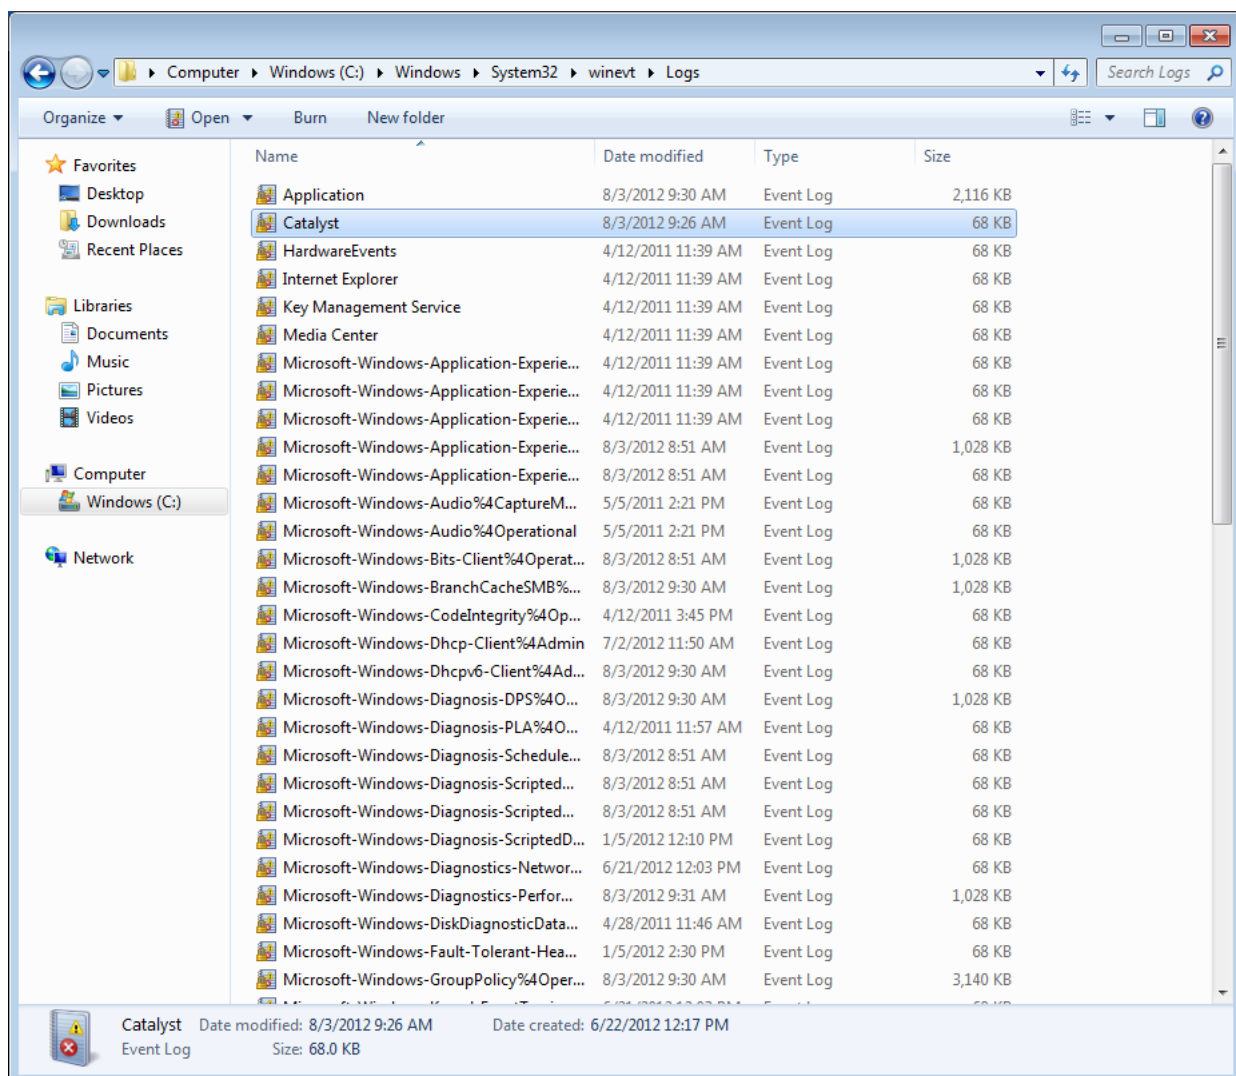

Figure 170 - Logs Directory
- Double-click the Catalyst folder icon (**Figure 170**) to open the Windows **Event Viewer** dialog with the Catalyst log file and display all the entries: